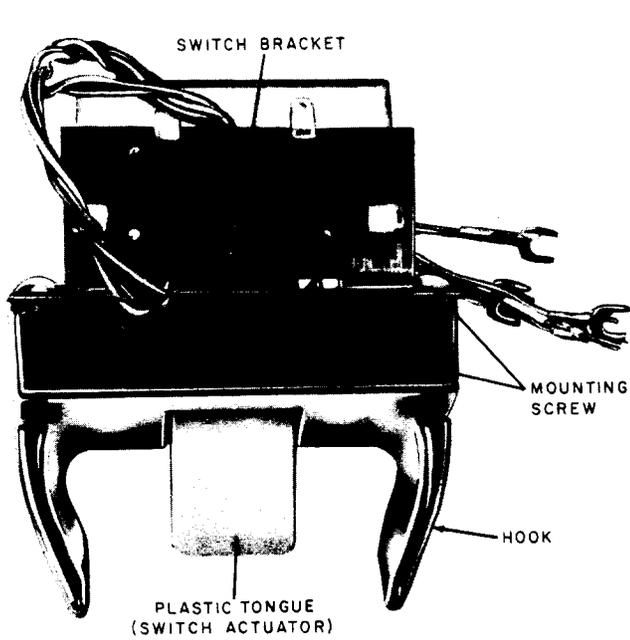

Fig. 15—263A Line Switch
**2.41** The **263A** switch (Fig. 15) is a card operated line switch similar to that used in 750-type panel telephone sets. The contacts are arranged for use with speakerphone and 1A, 1A1, or 1A2 Key Telephone Systems.